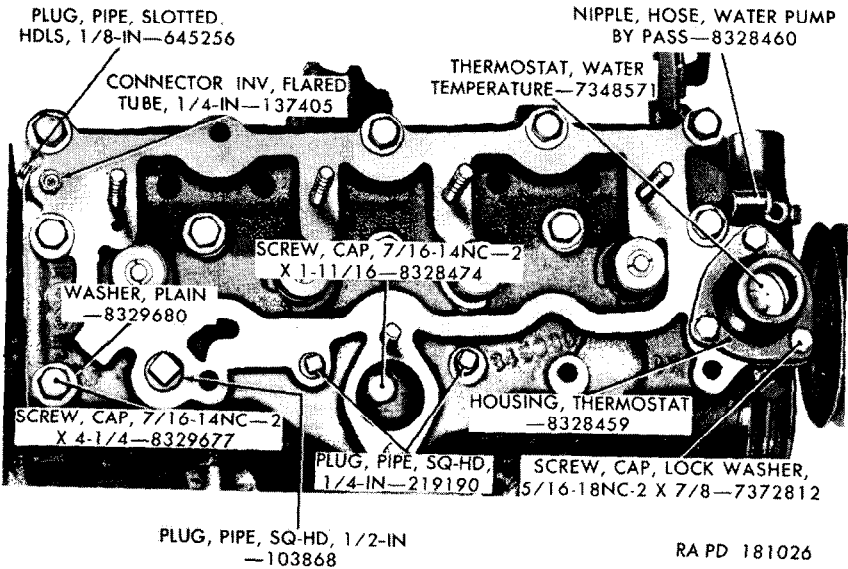

Figure 15. Top view of cylinder head.
(fig. 15) in the cylinder head and from the elbow in the lower section of the cylinder block.
b. Remove the remaining cylinder head cap screws and plain washers (fig. 15).
Caution: One cylinder head cap screw (fig. 15) is located inside the intake manifold and is removed by inserting a wrench into the carburetor opening in the cylinder head. Do not fail to remove this cap screw before attempting to remove the cylinder head. Remove the cylinder head and gasket.